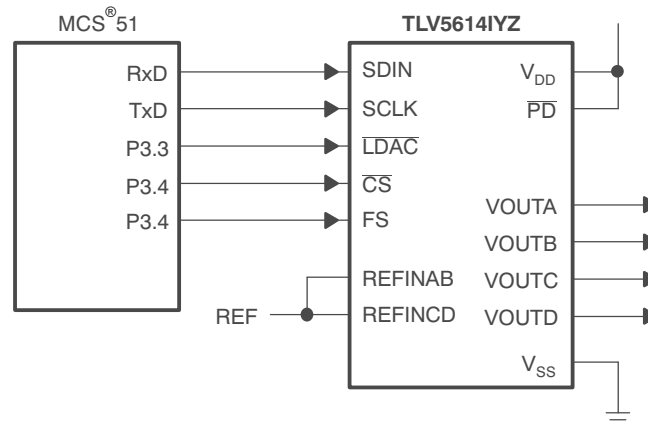

Figure 18. TLV5614IYZ Interfaced With MCS51
Figure 18 shows an example of how to connect the TLV5614IYZ to an MCS51 Microcontroller. The serial DAC input data and external control signals are sent via I/O Port 3 of the controller. The serial data is sent on the RxD line, with the serial clock output on the TxD line. Port 3 bits 3, 4, and 5 are configured as outputs to provide the DAC latch update ($\overline{\text{LDAC}}$), chip select ($\overline{\text{CS}}$) and frame sync (FS) signals for the TLV5614IYZ. The active low power-down pin ($\overline{\text{PD}}$) of the TLV5614IYZ is pulled high to ensure that the DACs are enabled.